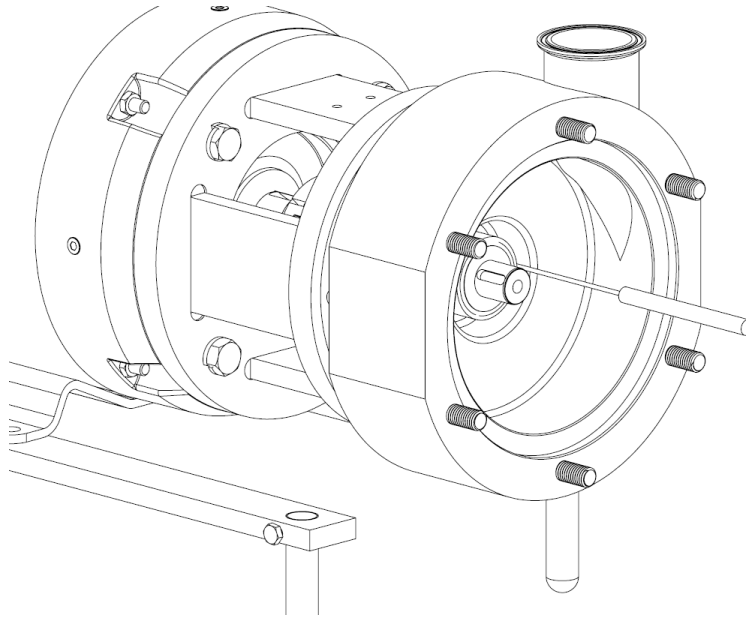

Figure 4
6. Pull out the seal driver. You may have to use a pick to separate the rotating seal from the stationary seal. See Figure 4.